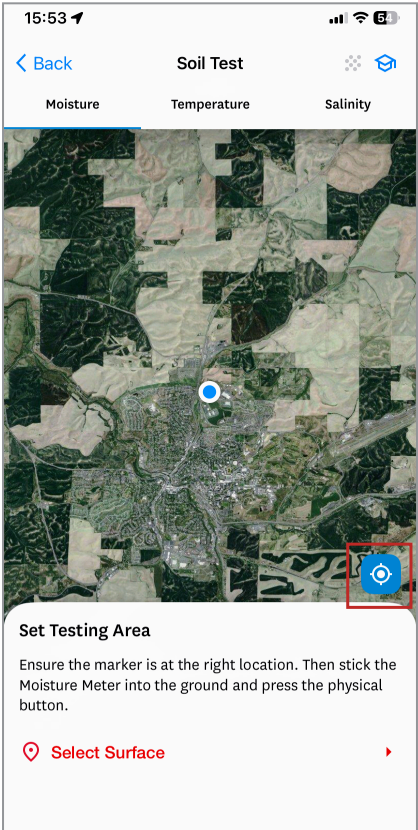
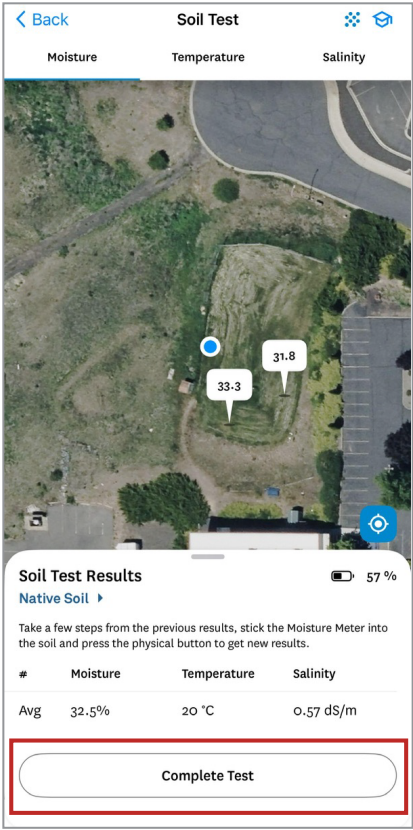
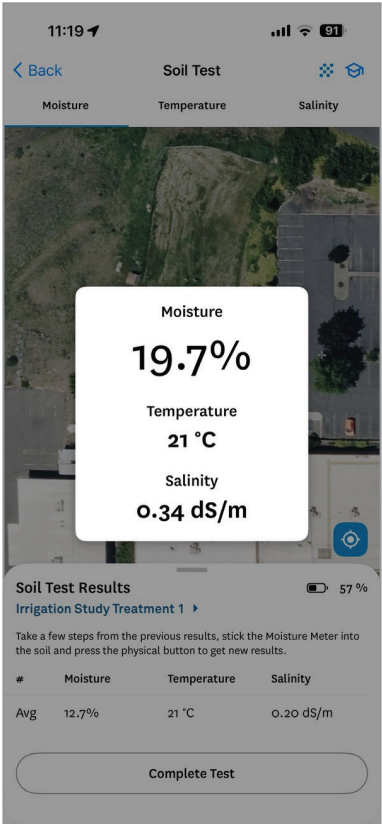

Figure 6 GPS tracking toggle on/off
Figure 7 Complete Test
Figure 9 View of test data
The **Soil Test** screen will automatically load (Figure 6, Figure 7, & Figure 9).
The SOLYX GO app will show and track location as soil tests are taken at different locations. If the position of the GPS dot indicator is not accurate, press the blue button in the bottom right of the map to turn GPS tracking off (Figure 6).
7. Press **Complete Test** when all soil tests for the site are completed and save results to the calendar (Figure 7).